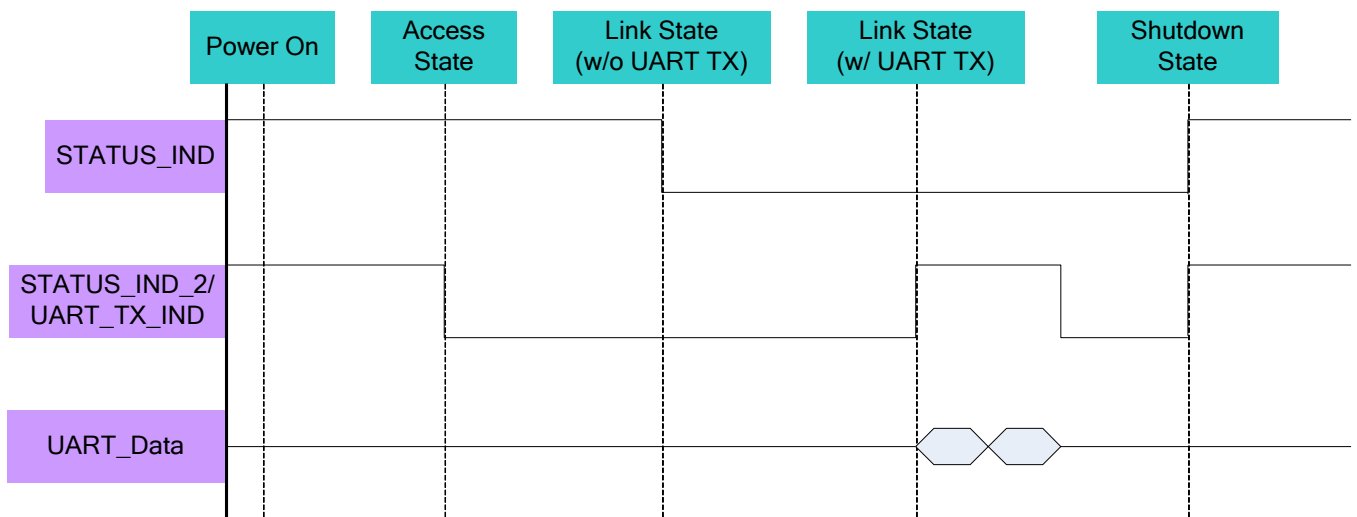

Fig3. State shown by STATUS_IND Pin status
- Fig.3 shows the related timing, when indicates HOST MCU UART data transmission. This function works under both Bluetooth 3.0 and 4.0 modes. If MCU doesn't need UART_TX_IND, please keeps this pin (P0_4) floating.